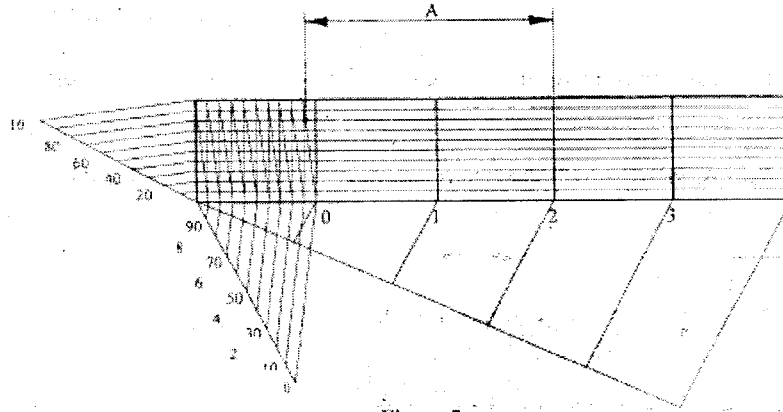

Figure 2
- 10 Figure 2 shows a diagonal scale of 30mm = 0.5m.